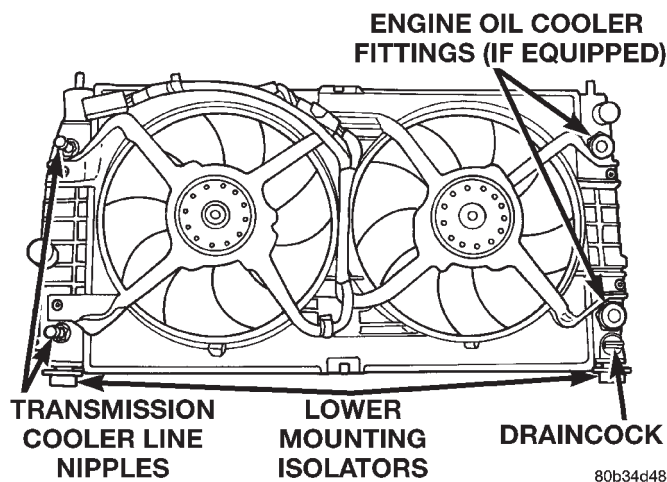

Fig. 18 Radiator—Removal and Installation
(2) Drain cooling system. Refer to Cooling System Draining in this section.
(3) Remove upper radiator crossmember.
(4) Remove hose clamps and hoses from radiator.
(5) Disconnect transmission hoses from cooler and plug off (Fig. 18).
(6) Disconnect engine oil cooler lines (if equipped) (Fig. 18).
(1) Slide radiator down into position; seat the radiator assembly lower rubber isolators in the mounting holes provided in lower radiator support (Fig. 18).